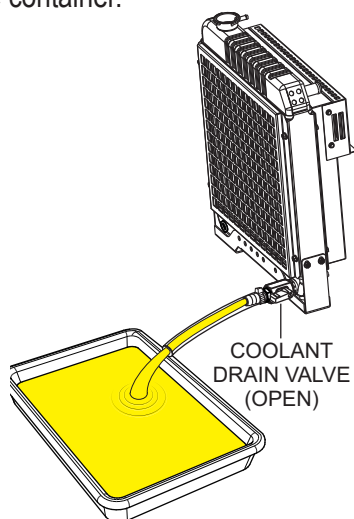

Figure 184. Draining The Engine Coolant
2. Place the **coolant drain valve** in the **OPEN** position (Figure 184) and allow the coolant to drain into a suitable container.